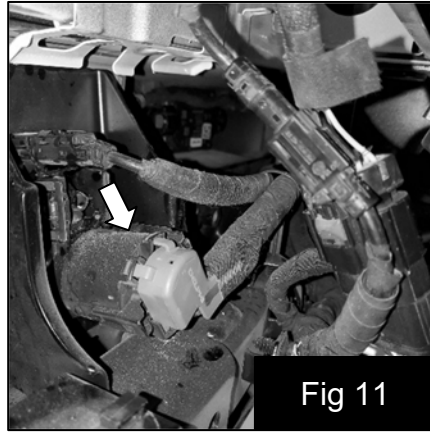

Fig 11
13. Disconnect the trailer connector and install the T-harness between the trailer connector and the factory harness. Connect the two-pin connector of the T-harness to the amplifier harness. Fig 11&12